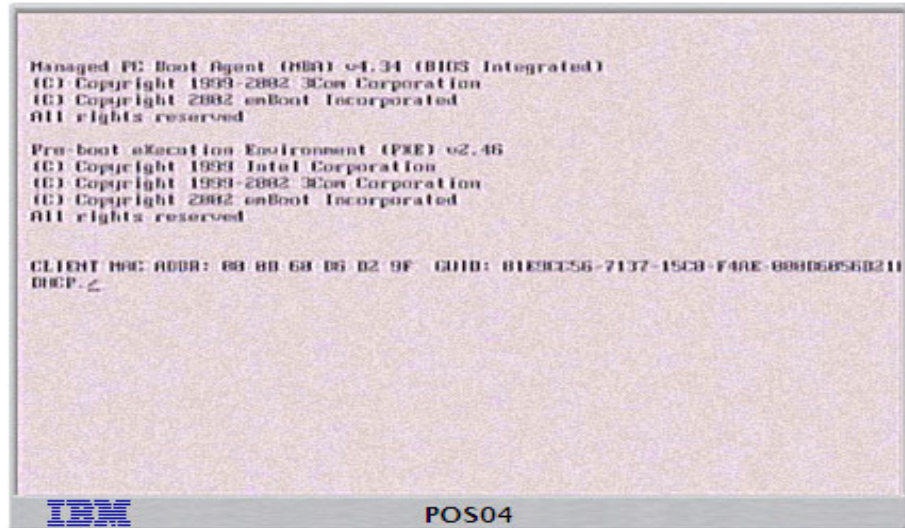

Figure 5-26 POS system booting up from the network
9. We specified that Tivoli Provisioning Manager for OS Deployment should wake the POS terminal in order to do the restore and our terminal (POS04) was turned off when we scheduled the restore. After we confirmed the restore settings, Tivoli Provisioning Manager for OS Deployment did, indeed send a Wake on LAN packet to POS04 which caused it to power up and begin booting (Figure 5-26 on page 117).